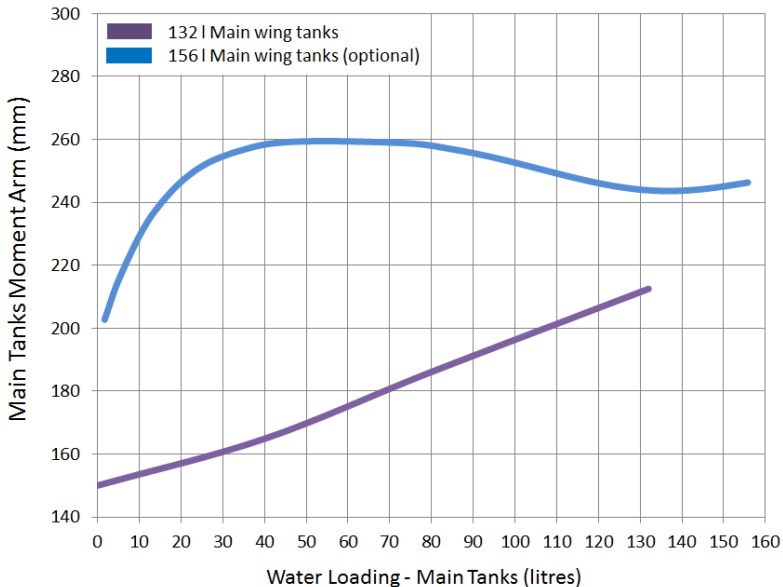

Figure 6-3 Main Tanks Moment arm vs Loading
The moment arm of the main water ballast is a conservative approximation and changes as the tanks are filled from 150 mm to 212 mm for the 132 l tanks, and 200 mm to 247 mm for the optional larger 156 l tanks. See Figure 6-3.
5. Plot the mass against the moment on the JS-3 RES Envelope diagram (Figure 6-3).
The plot on the diagram illustrated in Figure 6-3 demonstrates that the CG is slightly forward of the mid position and borders on the maximum allowable weight.
Figure 6-3 illustrates the envelope for the 15 m configuration.